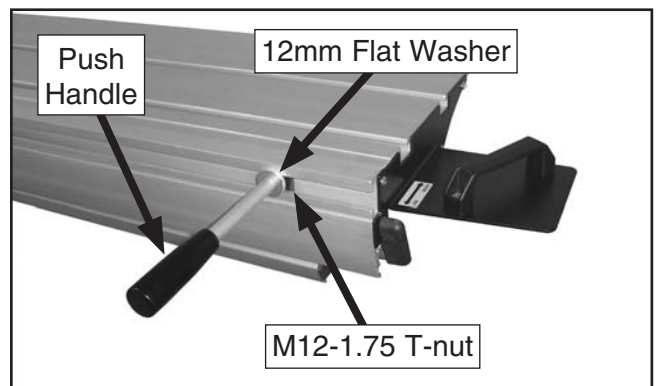

Figure 30. Sliding table push handle installed.
- Install the push handle into the table, as shown in **Figure 30**, with a 12mm flat washer and M12-1.75 T-nut.